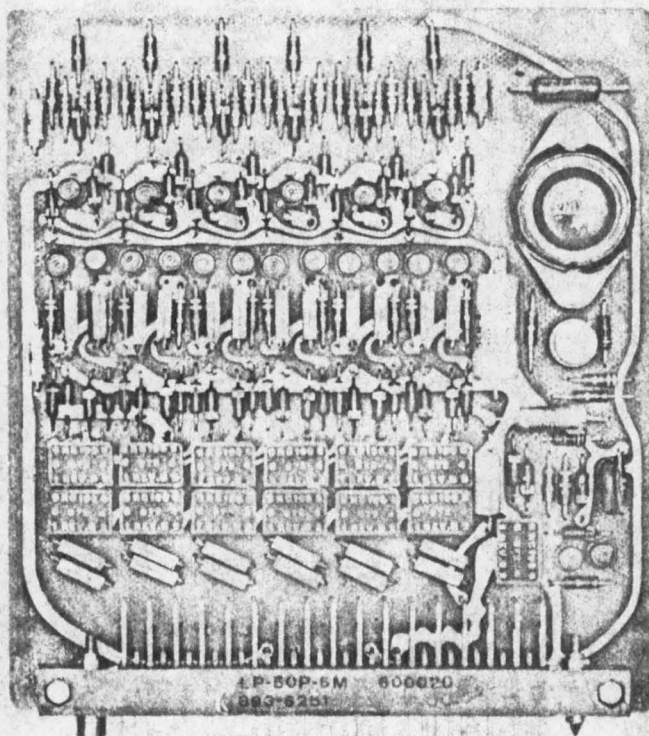

Figure 1 - 6-Bit Storage & 3V P.S. Model 600215
2. Description - The REDCOR Model 600215 6-Bit Storage flip flop (see Figure 1) is a printed circuit board module consisting of six independent flip flop circuits with transformer-coupled set and reset inputs, one transformer-coupled common reset amplifier and a +3-volt power supply. The circuit board is a standard 50-pin module card with components mounted on one side. The board assembly measures 5 x 5.4 inches and requires one standard card space.